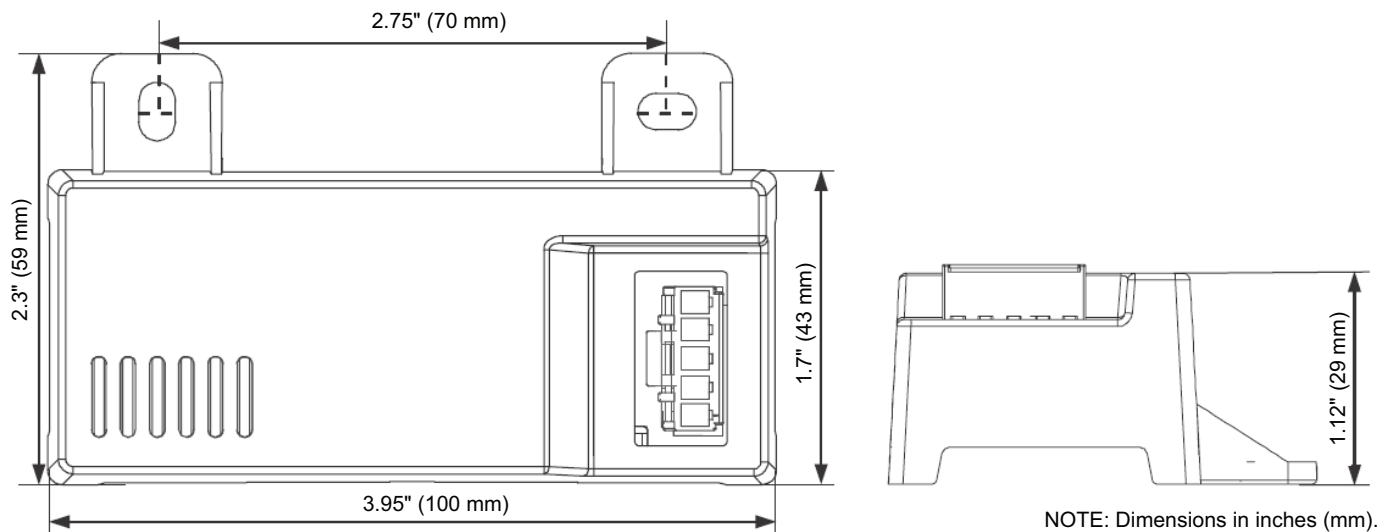
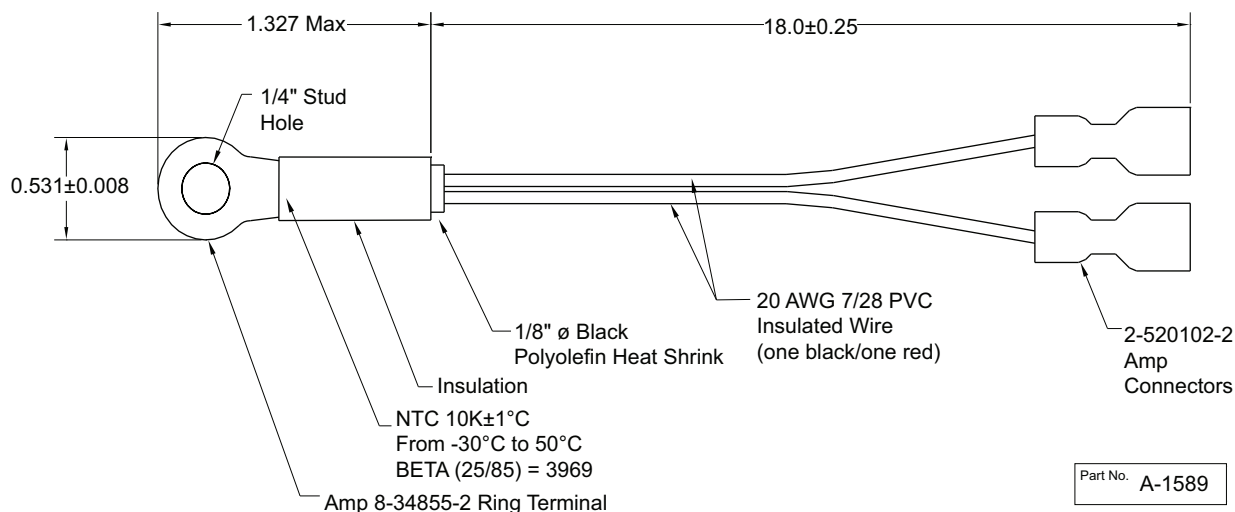
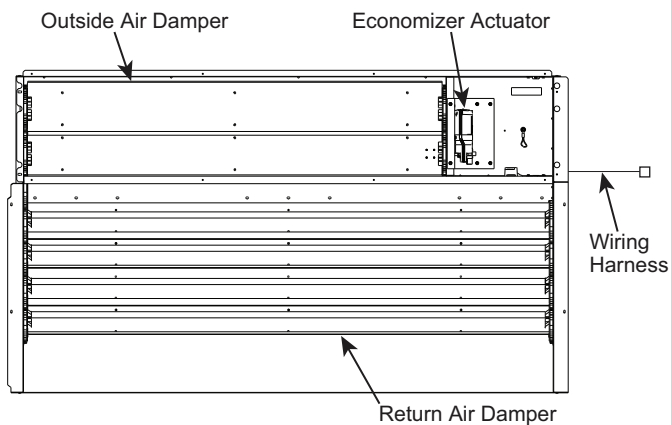

Fig. 65 — HH57LW001 Dimensional, Connection and Switching Information
Fig. 66 — HH79NZ039 Dry Bulb and Mixed Air Sensor Wiring
Fig. 67 — EconomizerONE System Component Locations
When using the HH57LW001 enthalpy sensor (see Fig. 65) for outside air changeover, the existing HH79NZ039 dry bulb sensor (see Fig. 66) must be removed. The enthalpy sensor will be mounted in the same location as the dry bulb sensor (see Fig. 67). When the enthalpy sensor's OA (Outside Air) temperature, enthalpy, and dew point are below their respective set points, outside air can be used for free cooling. When any of these are above their set point, free cooling will not be available. Enthalpy set points are configurable and create an enthalpy boundary according to the user's input. For additional details, see Fig. 68-69 and Table 27.
The optional enthalpy control sensor (P/N: HH57LW001) communicates with the POL224 economizer controller using the 5-wire harness, 48TC005213. The HH57LW001 sensor can be used as a single outside air enthalpy, a differential return enthalpy, or a differential return temperature sensor. Refer to the base unit control wiring diagrams found earlier in this book to wire the HH57LW001 enthalpy sensor for each option. See Fig. 65 and Table 29 on page 50 to locate the wiring terminals for each enthalpy control sensor.
Economizers are shipped standard with an HH79NZ039 outside air dry bulb sensor (refer to Fig. 66). System default setting (high temp limit) is 63°F (17°C) and has a range of 48°F to 80°F (9°C to 27°C). Sensor is factory installed on economizer.
If installing the optional HH57LW001 enthalpy sensor, the HH79NZ039 dry bulb outside air sensor must first be removed. Wire sensor to harness 48TC005213 and the (5) wires from the harness to the EconomizerONE harness in the return air chamber. Harness 48TC005213 has a 5-pin plug that connects directly to the HH57LW001 enthalpy sensor. Refer to the base unit control wiring diagrams earlier in this book for wiring connections. Refer to Fig. 65 and see Table 29.